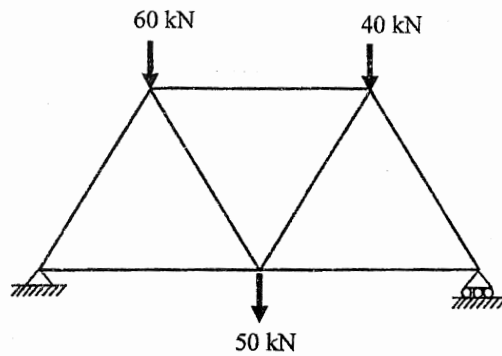

Fig.4
4. A simply supported plane truss made up of equilateral triangles of side equal to 4 m is loaded as shown in Fig.4. Analyse the plane truss using tension coefficient method.